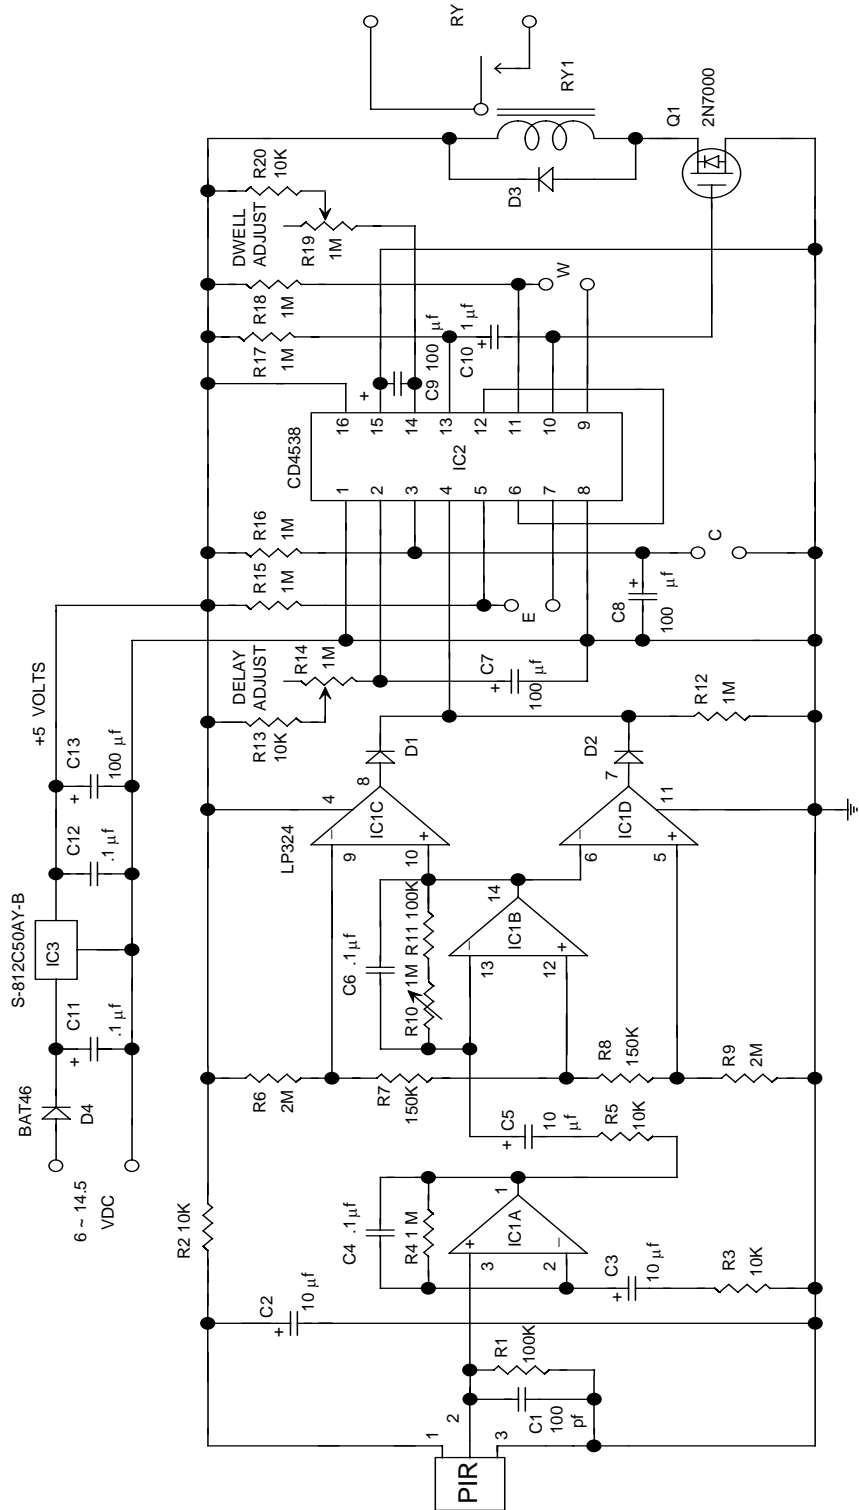
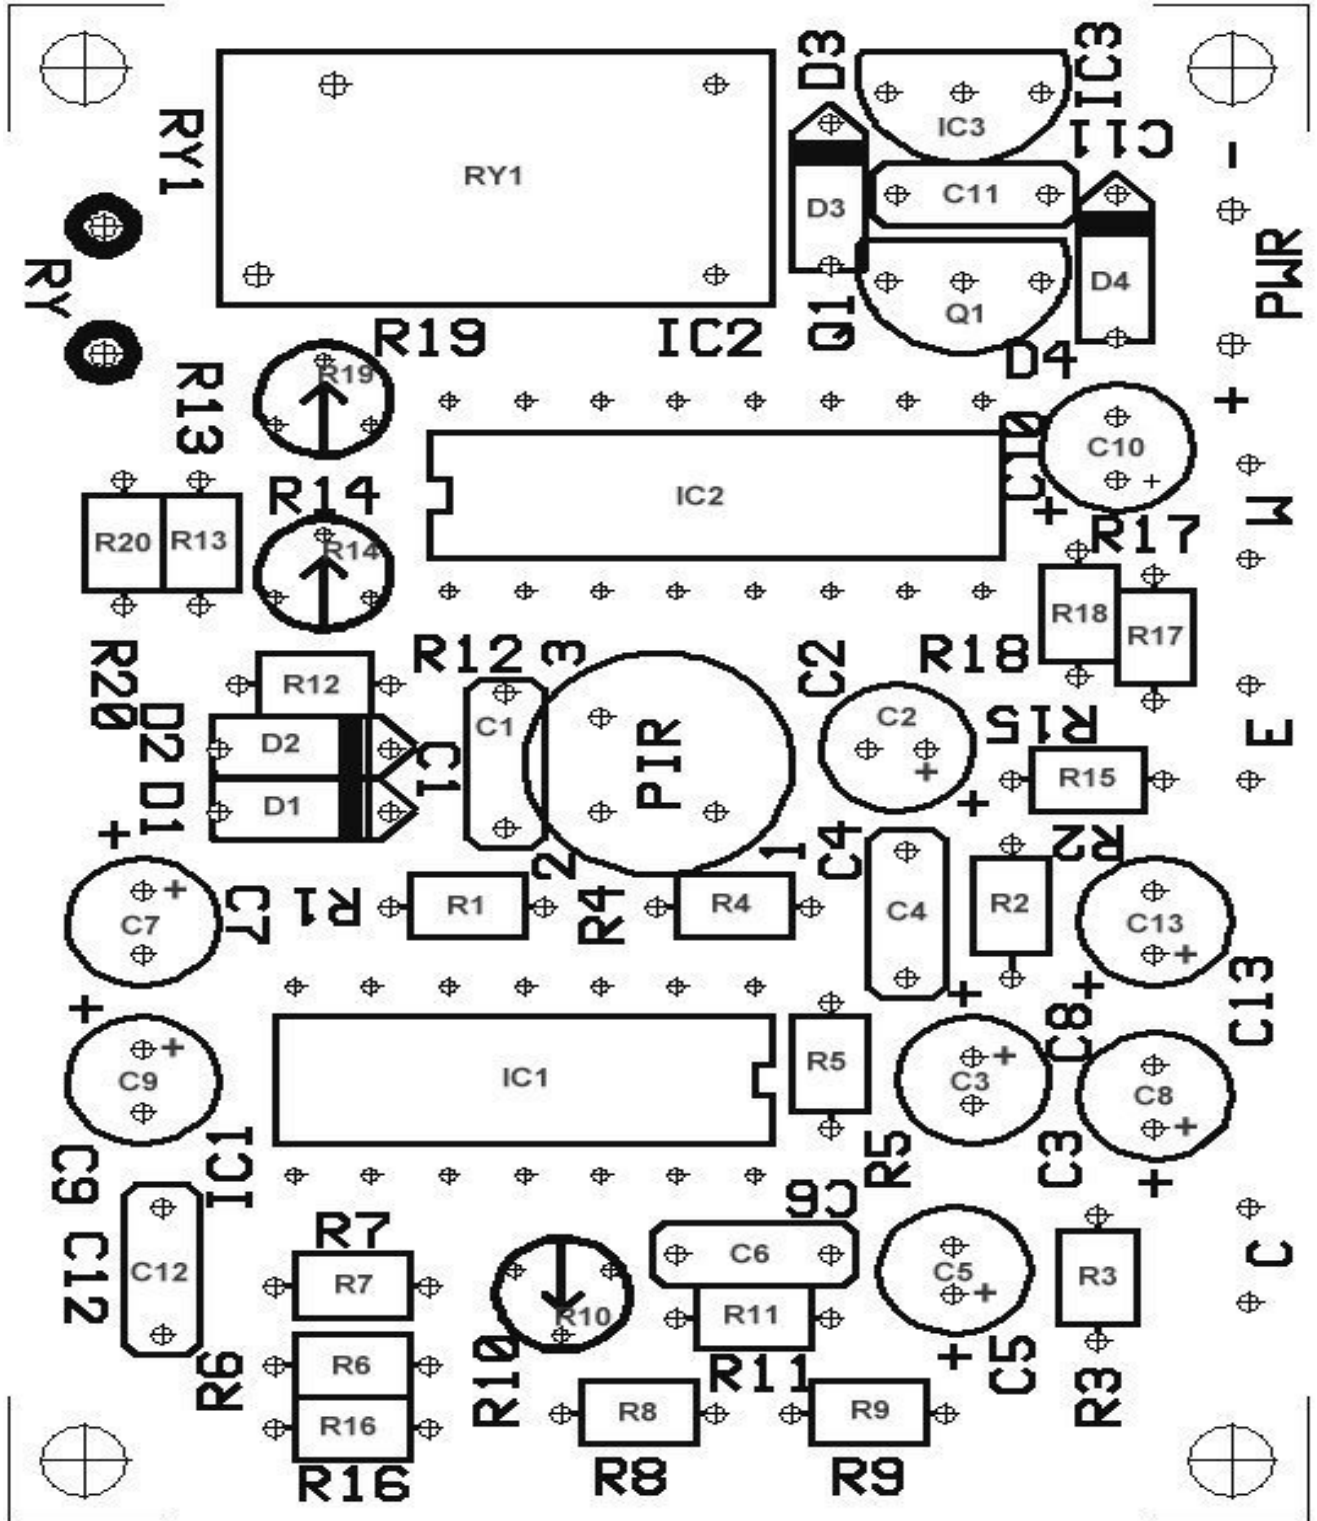

FIGURE 1
FIGURE 2
Refer to the schematic in figure 1 and the physical layout in figure 2 for parts placement.
- 4 Insert electrolytic capacitors C2, C3, C5, C7, C8, C9, C10, C13 with their long positive lead in the hole marked + on the PC board and in figure 2. Bend the leads, cut excess wire off and solder.
Figure 1 is a circuit diagram of the GLMDA. Power is supplied to the circuits and to the relay through micropower 5 volt regulator IC3. The 5 volts from the regulator is further filtered through R2, C2 and fed to pin 1 of the PIR325 pyroelectric sensor. The signal output at pin 2 of the sensor is bypassed to ground by a 100pf capacitor C1 to shunt any RF energy that might be picked up from radio transmitters or cell phones. A 100K load resistor R1 is also connected from pin 2 to ground.